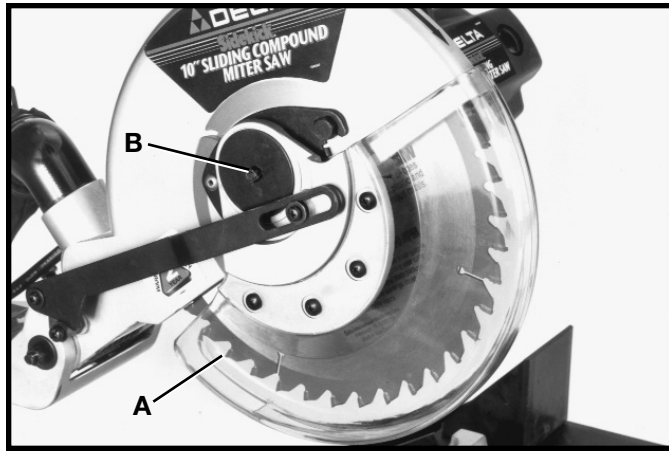

Fig. 48
1. The movable blade guard (A) Fig. 48, can be adjusted for proper movement as follows: Tighten nut (B) until the lower blade guard (A) moves smoothly as the cuttinghead is lowered.